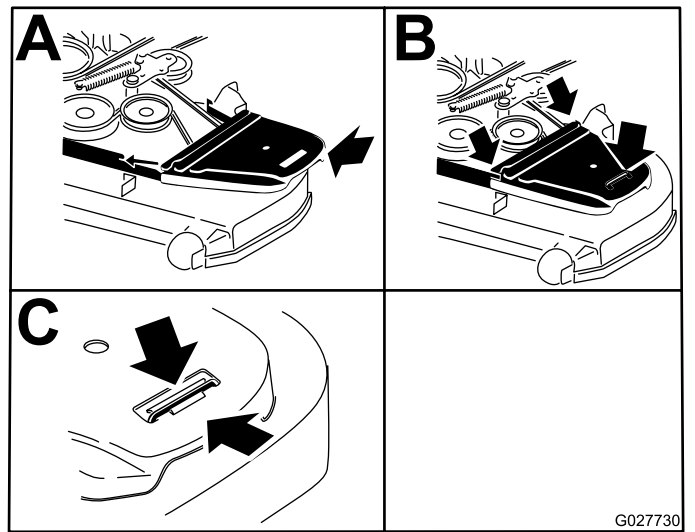

Figure 63
9. Install the belt covers (Figure 63).